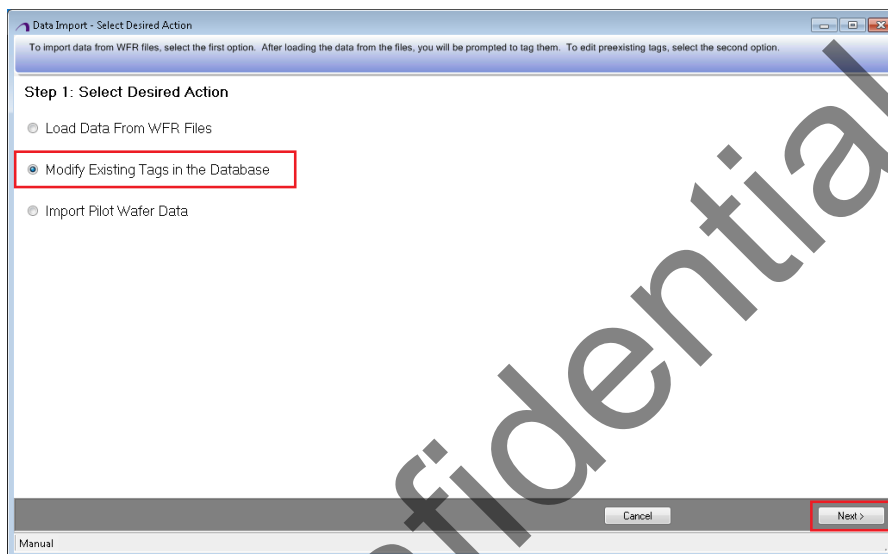

Figure 7-1 Data Import – To Select Desired Action
1. Click **Data Importing and Tagging** module on the **SAT** launcher UI. The **Data Import - Select Desired Action** window opens, as shown in Figure 7-1.